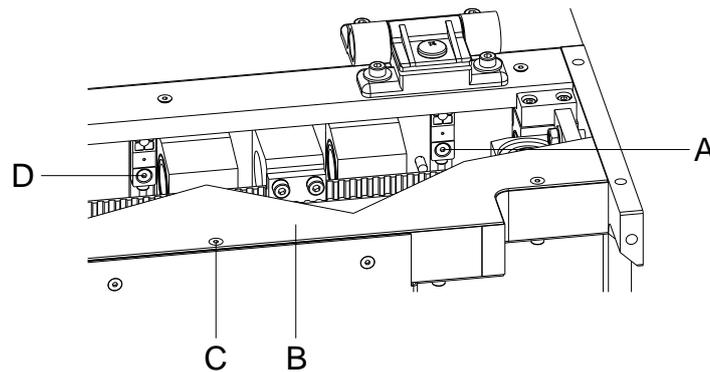

Figure 33
1. Place the new end position sensor and tighten it with the screw (D, Figure 33).
2. Place the new zero sensor and tighten it with the screw (A, Figure 33).
8. Place the top cover (B, Figure 33) and tighten it with six countersunk screws (C, Figure 33).